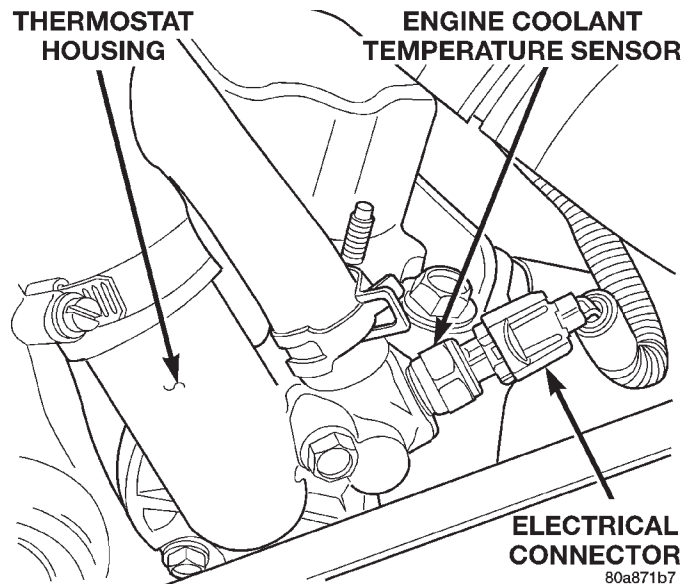

Fig. 24 Engine Coolant Temperature Sensor—Typical
(19) Verify wire harness connector is firmly connected to engine coolant temperature sensor (Fig. 24).